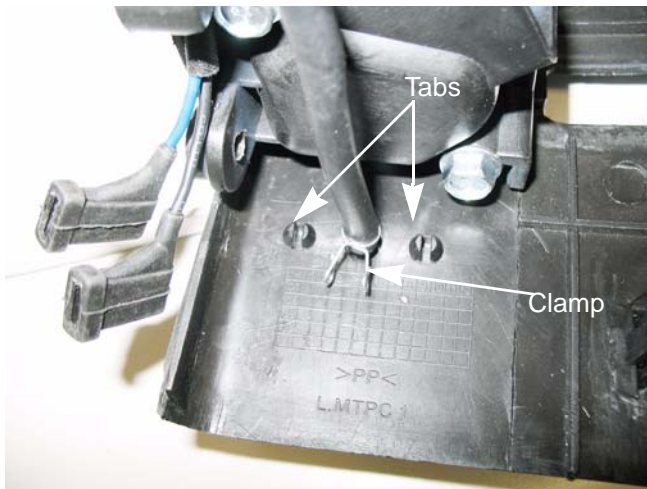

Figure 4.13
5. Remove the hose clamp at the rear of the primer bulb. See Figure 4.13.
6. The primer is held to the shroud by a pair of split, barbed posts. Squeeze the posts to release the barbs. See Figure 4.13.